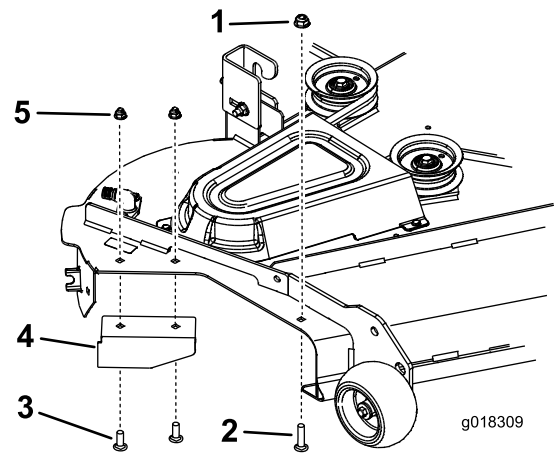

Figure 20
2. Install the existing baffle with the existing bolts and nuts after removing the plate assembly (Figure 20).
3. Install a carriage bolt and flange nut into the front hole show in Figure 20.